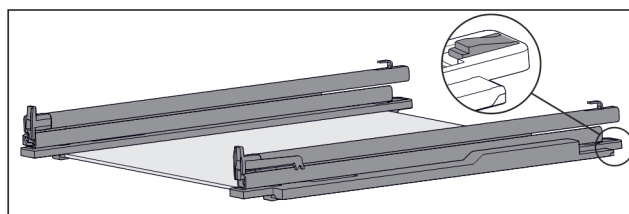

Fig. 133 Glass shelf with rails and retaining parts
- Press down retaining part at the rear (see Fig. 133) and at the same time push the rail back.